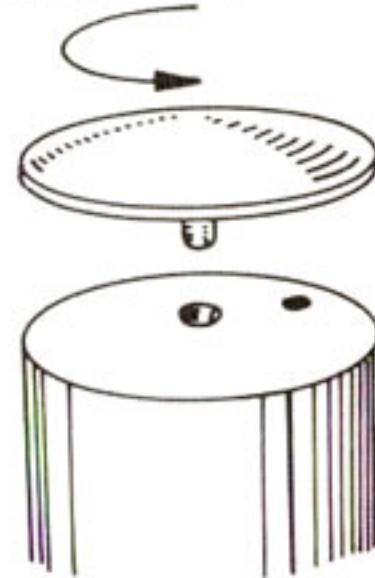

Fig. 1
- ① Rest base (1)
- ② Collar A (1)
- ③ Collar B (1)
- ④ Hexagon socket head bolt M5 x 8 (1)
- ⑤ Spring washer for M5 (1)
- ⑥ Flat washer for M5 (1)
- (1) Rotate the pole cap of the DQX-1000's insulator pole in the direction indicated by the arrow, and remove it. (Refer to Fig. 1)